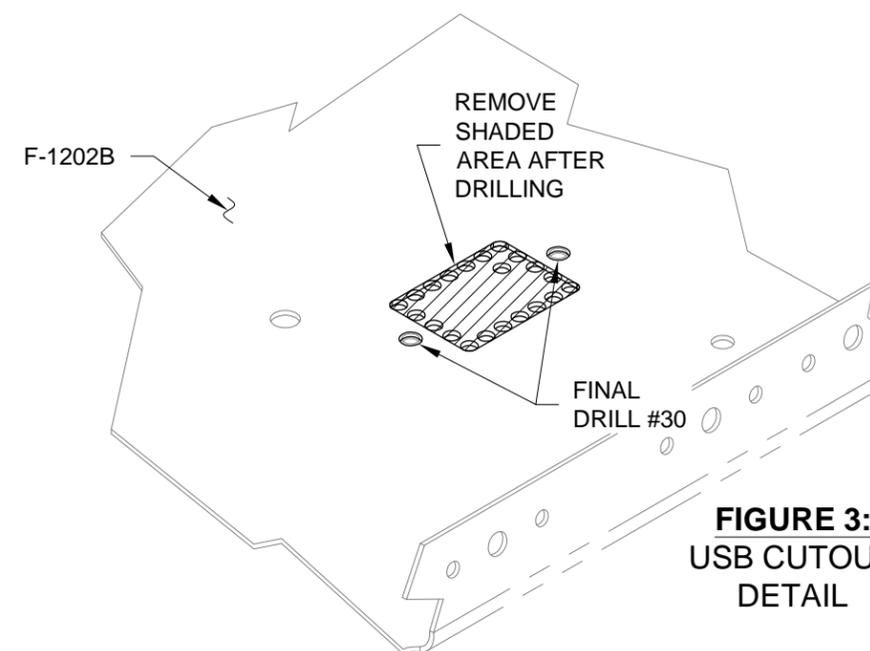

FIGURE 3:
Step 4: Remove material from the F-1202B Panel Base in the shaded area shown in Figure 3. A small side cutters can be used to clip the material between each hole, or cut with small cutting disk.
Step 5: Final-Drill #30 the two holes indicated in Figure 3.